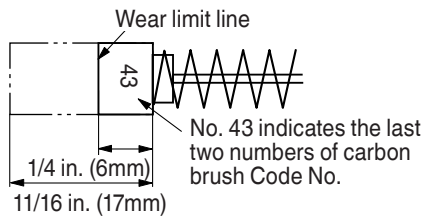
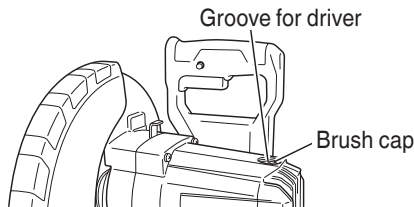

Fig. 31
Fig. 32
3. Inspecting the carbon brushes (Fig. 31 and Fig. 32)
Therefore, inspect the carbon brushes periodically and replace them when they have become worn to the wear limit line as shown in Fig. 31. Also, keep the carbon brushes clean so that they will slide smoothly within the brush holders.
The carbon brushes can easily be removed after removal of the brush caps (see Fig. 32) with a slotted (minus) screwdriver.
When replacing the carbon brushes, use only metabo HPT carbon brushes having "43" in the last two digit of its Code No. (see Fig. 31). If you use other carbon brushes, the electric brake will not operate.